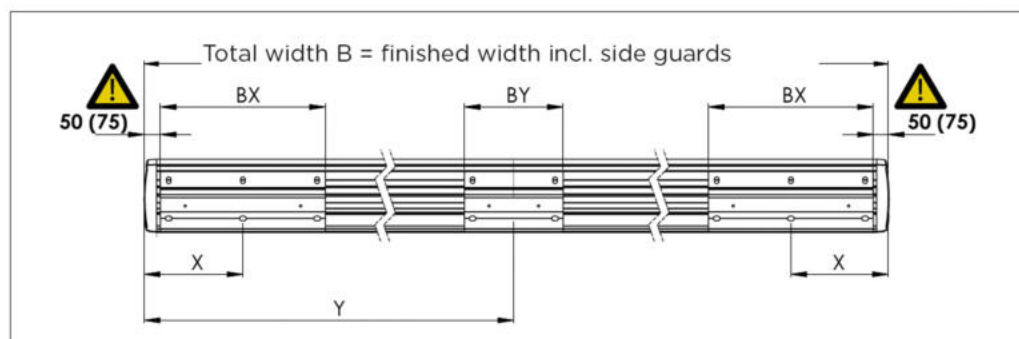

Fig. 1:
When starting, mount the awning sufficiently high against the wall, at least at 2500 mm, to have sufficient run-out height (Y) under the extension pole when the screen is open. Make sure the angle of inclination is at least 10° and at most 30° (see fig. 1).